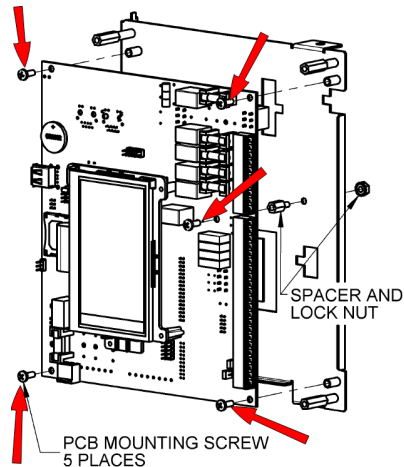
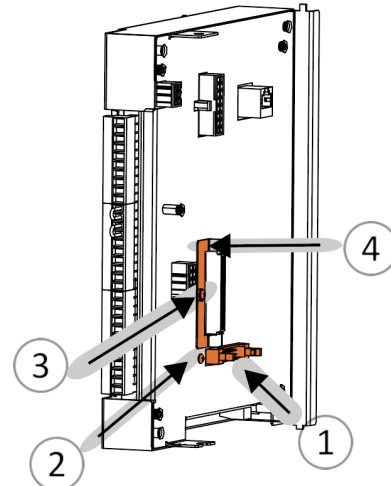

Figure 1
Figure 2
2. Remove the five screws off *both* the original and replacement boards (*Figure 1*).
- » Remove the two screws (2) from the back of the control board before removing the back plate and the CBI connector (1) from the original board.
- » Remove the screw (3) and retaining bracket (4) that secures the other connector to the back of the CX board (see *Figure 2*).